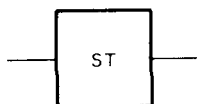

Figure 8-8 Symbol, Schmitt Trigger Function
The symbol in Figure 8-8 shows the Schmitt trigger (ST) function. The Schmitt trigger is normally either in a 0 or a 1 state (inactivated). When the input signal crosses a predetermined voltage threshold, the Schmitt